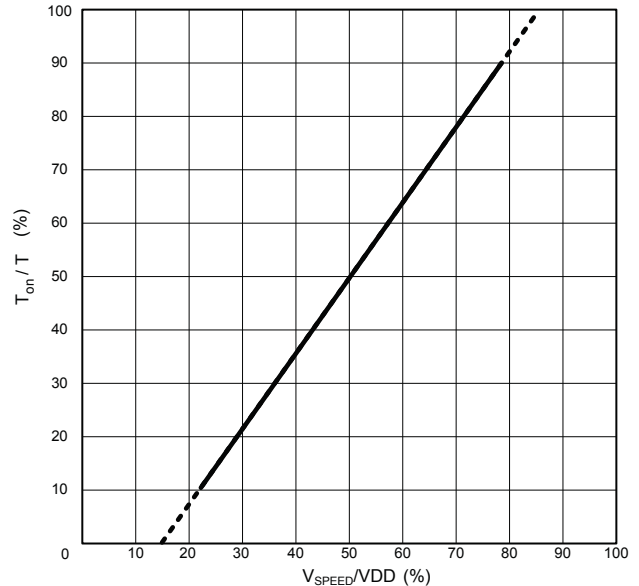

Figure 1. Speed in relation to duty cycle
**SPEED** The duty cycle of the internally generated carrier frequency is controlled by applying a DC voltage on the SPEED input. A plot showing the relationship of Speed to duty cycle is shown in figure 1. When SPEED is pulled directly to VDD the internal carrier is disabled and the Enable input can be used to PWM the bridge. When  $V_{SPEED} < V_{SPEED(D)}$  the output is guaranteed to be 0%. When  $V_{SPEED} > V_{SPEED(E)}$  the output is guaranteed to be 100%.